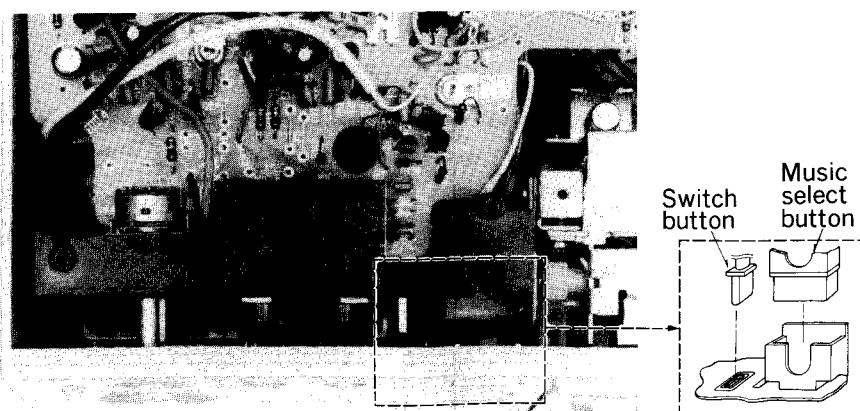

Fig. 22
2. Insert the main circuit board in the direction of the arrow (B) (↘). In this case, the switch button and music select button must be projected from the holes in the main case top as shown in fig. 22.